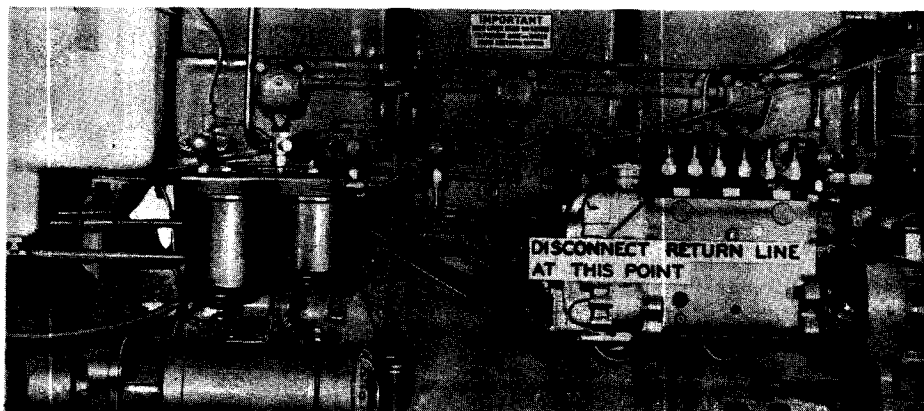

Figure 74
3. Carefully disconnect the fuel return line at the point indicated in Figure 74. Make sure no dirt enters the line. NOTE: The fitting must be removed from the pump in order to obtain an accurate check. Use a 9/16 inch box end wrench to remove and tighten the fitting.
4. Open the bleeder by-pass valve, Figure 74. If a small continuous flow of fuel does not appear at the opening, the final filter is plugged and must be replaced. Refer to Page 123.